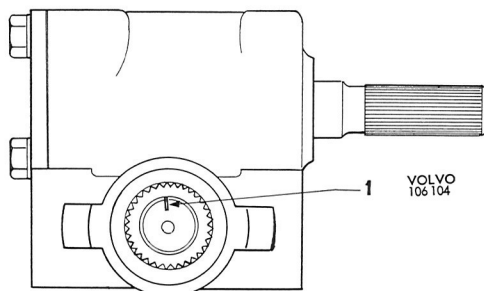

Fig. 6-62. Center position
2. Place the steering gear in the middle position (Fig. 6-62). Remove the four bolts (1, Fig. 6-41) for the upper cover (6). Pull up the cover and pitman arm shaft a bit and drain the oil. Pull out the cover and pitman arm shaft.
3. Remove the bolts and lower cover (19). Take care of the spacers (22).
4. Carefully knock on the steering worm shaft (10) so that the lower bearing outer races come loose from the housing. Take out the steering worm with bearings.
7. Locate the steering gear centrally (see Fig. 6-62). Screw in the adjusting screw so far that